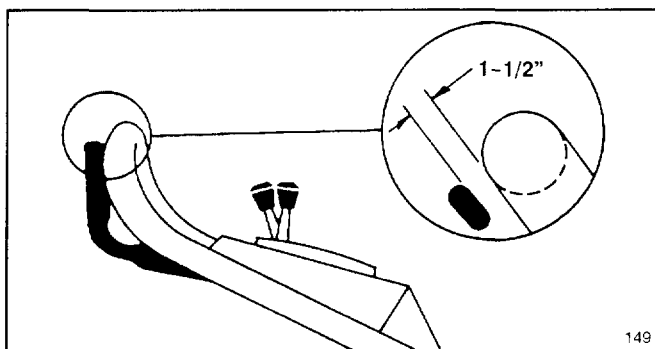

Figure 11
2. Lift control bar until some resistance is felt. The control bar should be 1-1/2" from handle when properly adjusted (Fig. 11).